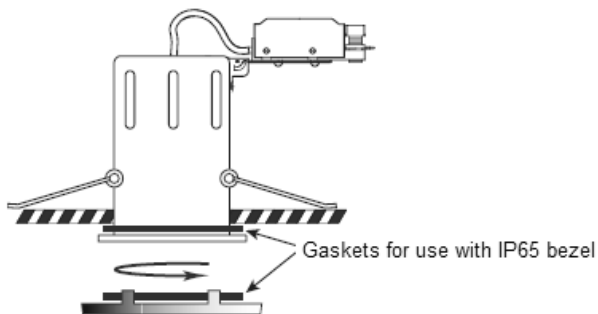

Fig. 6
- When using an IP65 bezel ensure both gaskets are in place. One gasket is pre-installed with the bezel and the second gasket should be installed around the base of the fitting (see Fig. 6)